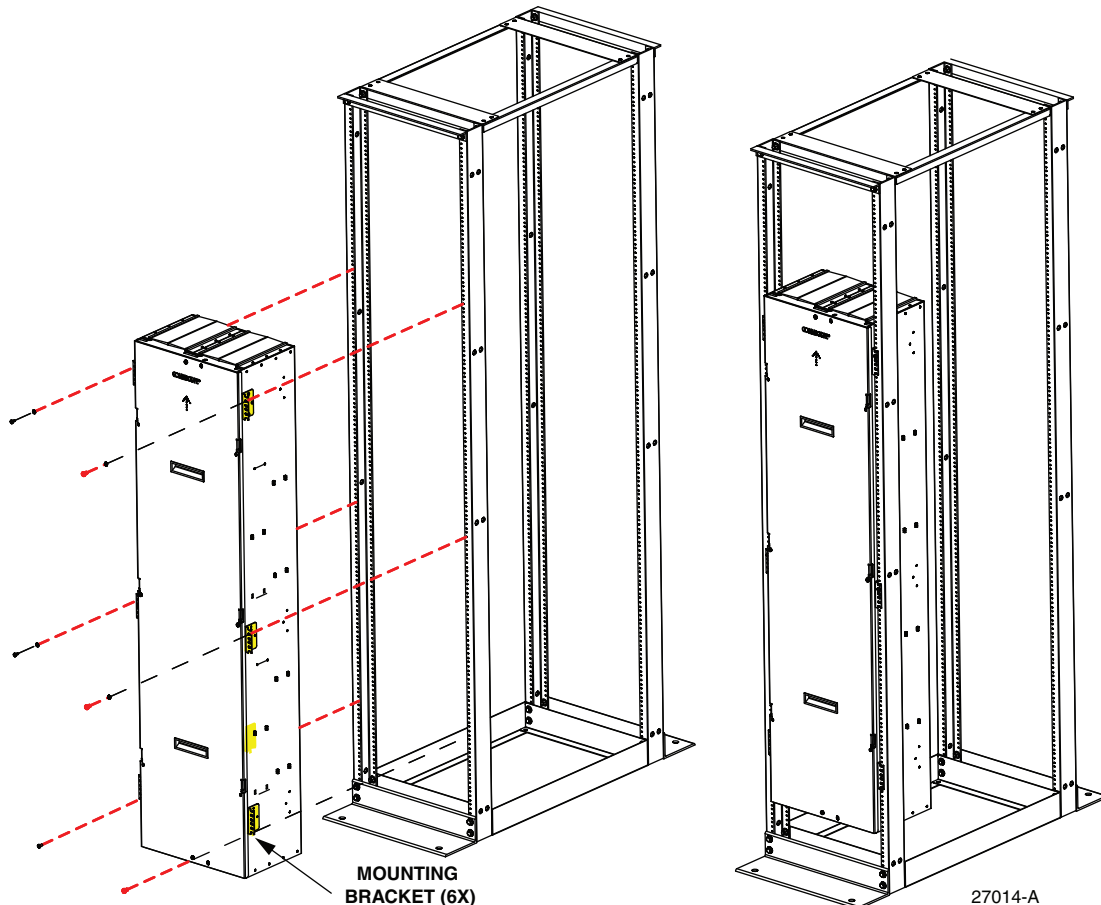

Figure 9. Mounting the Splice Cabinet on a Four-Post Frame
2. Fasten splice cabinet to frame with #12-24 screws and lock washers (Figure 9).